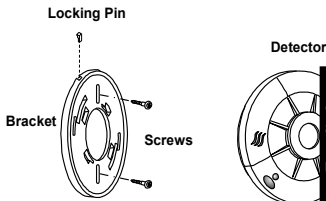

Figure 7: Smoke Detector Installation
Read the “Where To Install Your Smoke Detector” and “Where Not To Install Your Smoke Detectors” sections in this Manual before installing. To install the detector, perform the following steps (see *Figure 7*).
- 6 Remove locking pin securing the mounting bracket to the unit (see Figure 7).
- 6 Using screws (supplied) attach the bracket to the wall as in Figure 7.
- 6 Insert the locking pin in order to secure the mounting bracket to the detector (see figure 7).